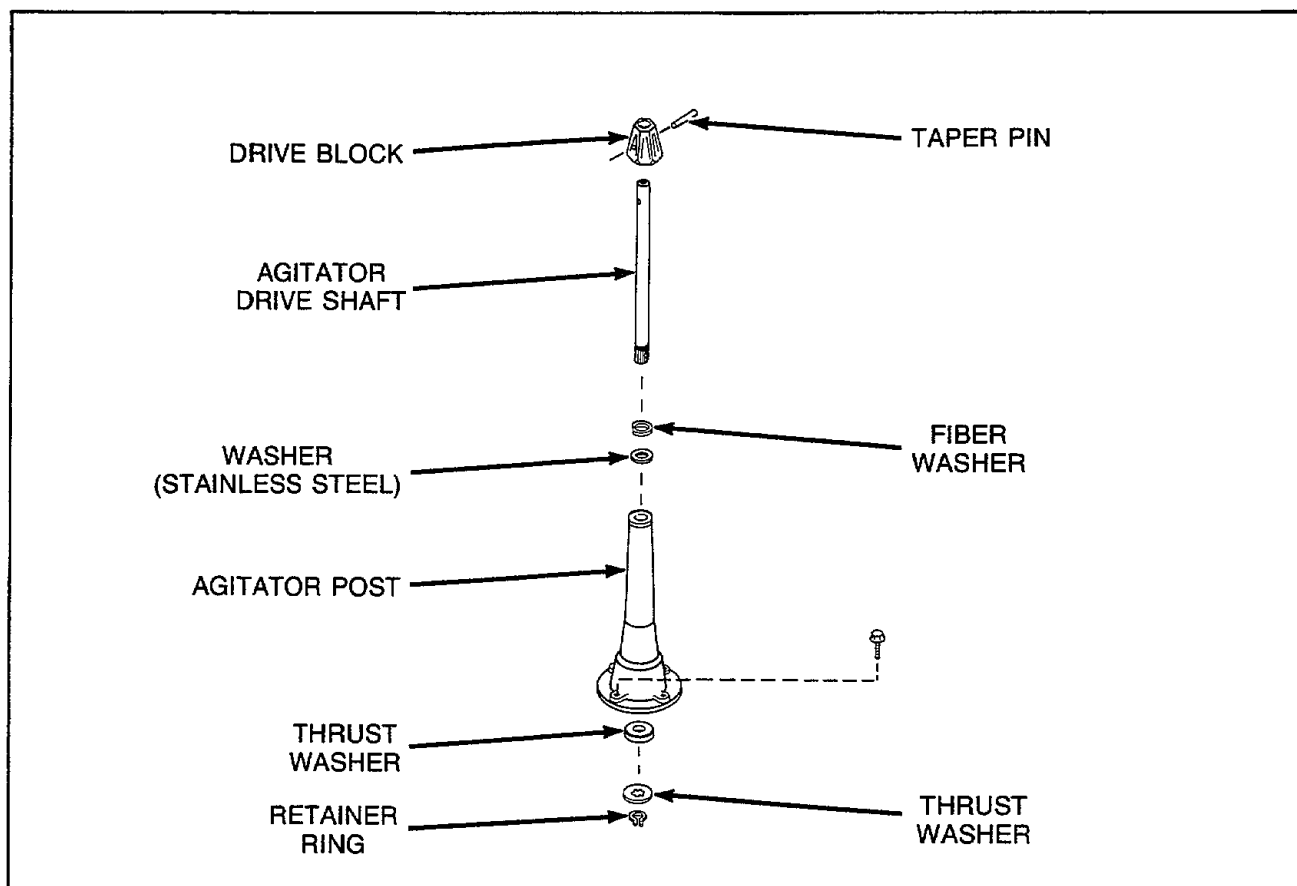

Figure 9
8. AGITATOR DRIVE SHAFT (Refer to Figure 9)